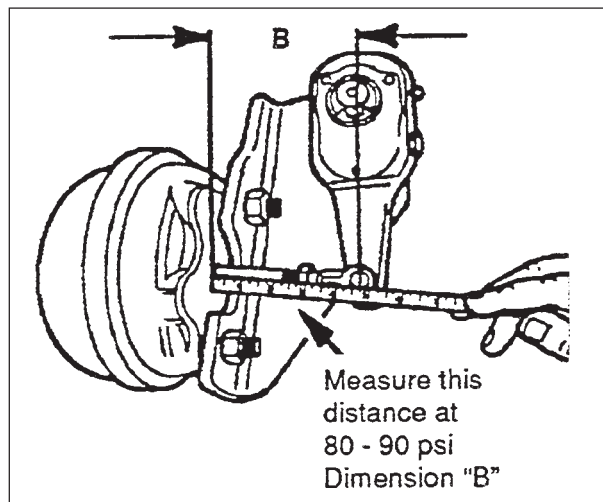

Fig. 8-23 PUSH ROD "EXTENDED"
3. Measure the brake chamber face to the center of the clevis pin (see Fig. 8-23).